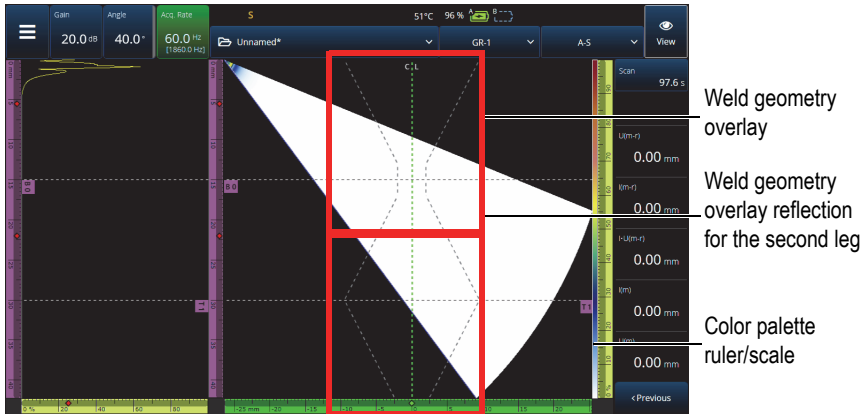
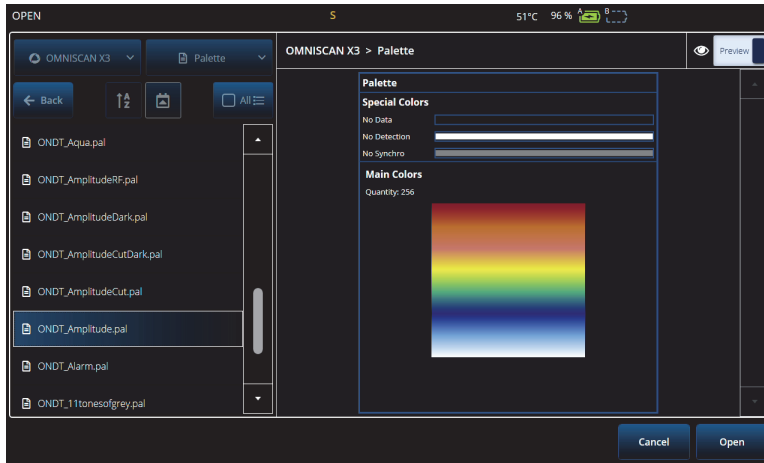

Figure 2-57 Example of a V-Offset weld geometry overlay
Figure 2-60 Color palette selector
visualize where indications are located relative to the part or weld geometry (see Figure 2-57 on page 104). Overlay reflection (to take into account the second leg, third leg, etc.) can be turned ON/OFF in the **Menu > Display > Overlay > Multiple Legs**.
- ◆ Tap and hold the color palette ruler/scale (shown on the right side of Figure 2-57 on page 104), and then select **Load**. Review the available color palettes, and tap **Open** to change the palette (see Figure 2-60 on page 108).
- ◆ Long press the palette ruler/scale (shown on the right side of Figure 2-57 on page 104) and select **Restore Default Palette** (see Figure 2-61 on page 108).